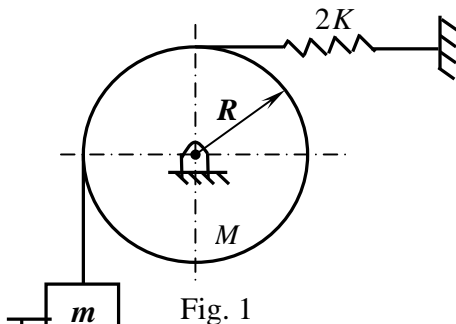

Fig. 1
- 4 Determine the natural frequency of the system shown in Fig. 1 using (i) Newton's second law